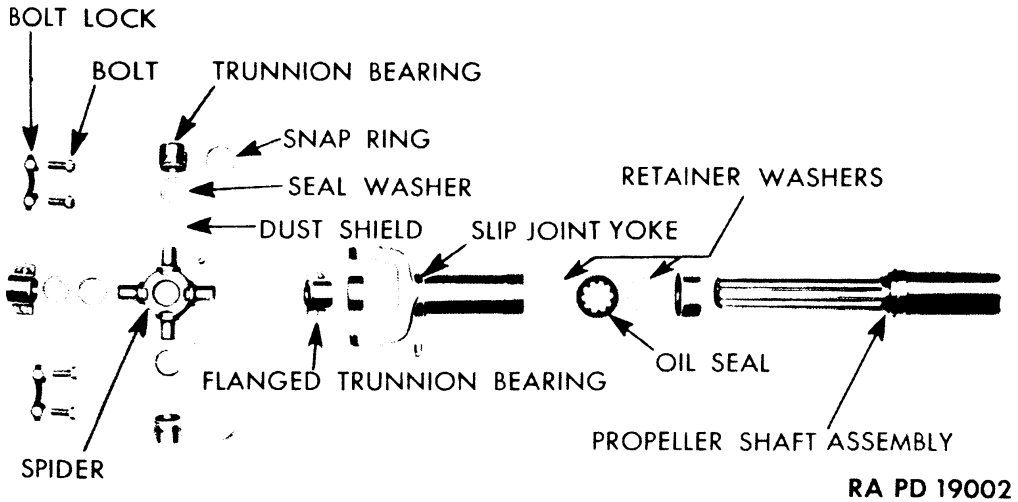

Figure 82 — Rear End of Front Axle Propeller Shaft — Disassembled
a. Front Axle Propeller Shaft (figs. 82 and 83).